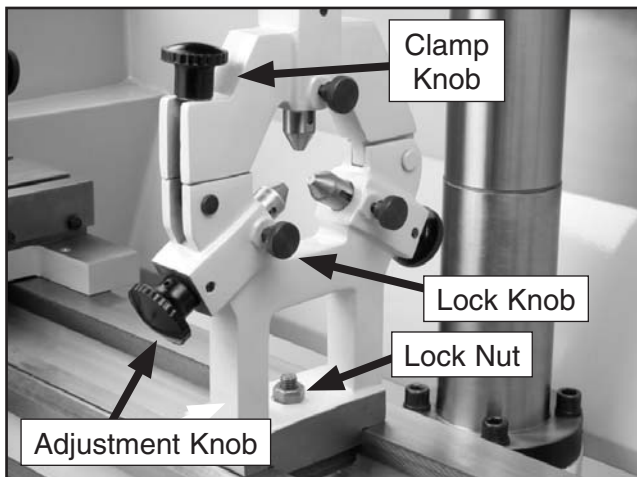

Figure 26. Steady rest adjustments.
2. Loosen the lock knobs so the finger position can be adjusted (see **Figure 26**).
3. Loosen the clamp knob (see **Figure 26**) and open the steady rest so a workpiece can fit inside of the fingers.
4. Position the steady rest where desired. Tighten the lock nut (see **Figure 26**) at the base of the steady rest to secure in place.